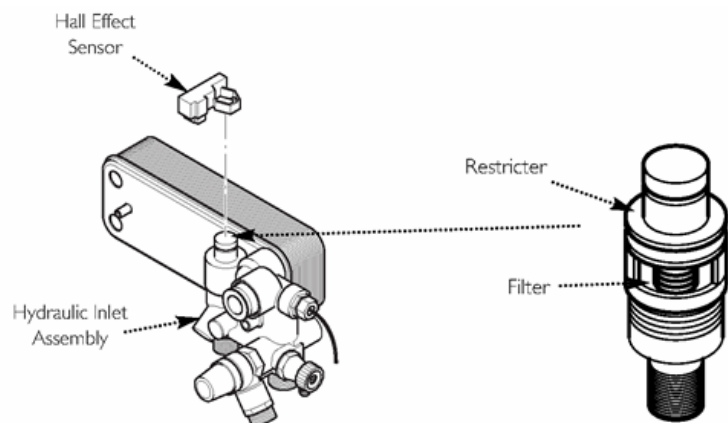

Fig. 75
DHW Filter (Fig. 75)
17. Pull off the Hall Effect sensor. Undo the restricter from the inlet/return manifold (Fig. 75).